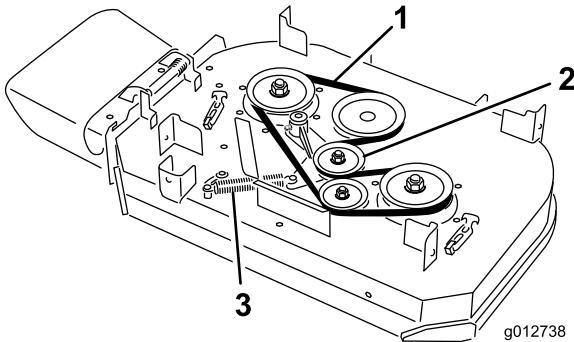

Figure 64
4. Remove the spring from the anchor post on the idler pulley arm (Figure 64).
5. Remove the worn mower belt (Figure 64).
6. Install the new mower belt around the clutch pulley, deck pulleys and idler pulley (Figure 64).
7. Install the spring onto the anchor post on the idler pulley arm (Figure 64).
6. Install the new mower belt around the deck pulleys and idler pulley (Figure 64).
5. Remove the spring from the anchor post on the idler pulley arm (Figure 64).
6. Remove the worn mower belt (Figure 64).
7. Install the new mower belt around the deck pulleys, clutch pulley and idler pulley (Figure 64).
8. Install the spring onto the anchor post (Figure 64).